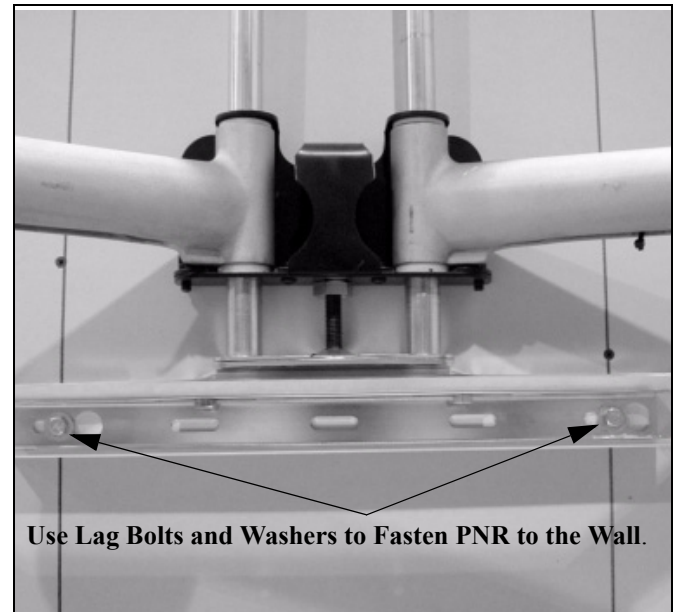

Figure 3: Mount Bottom Bracket
1. Mark the two mounting holes in the bottom mounting bracket (See figure 3). Make sure to align the holes parallel to the holes drilled in the top bracket.